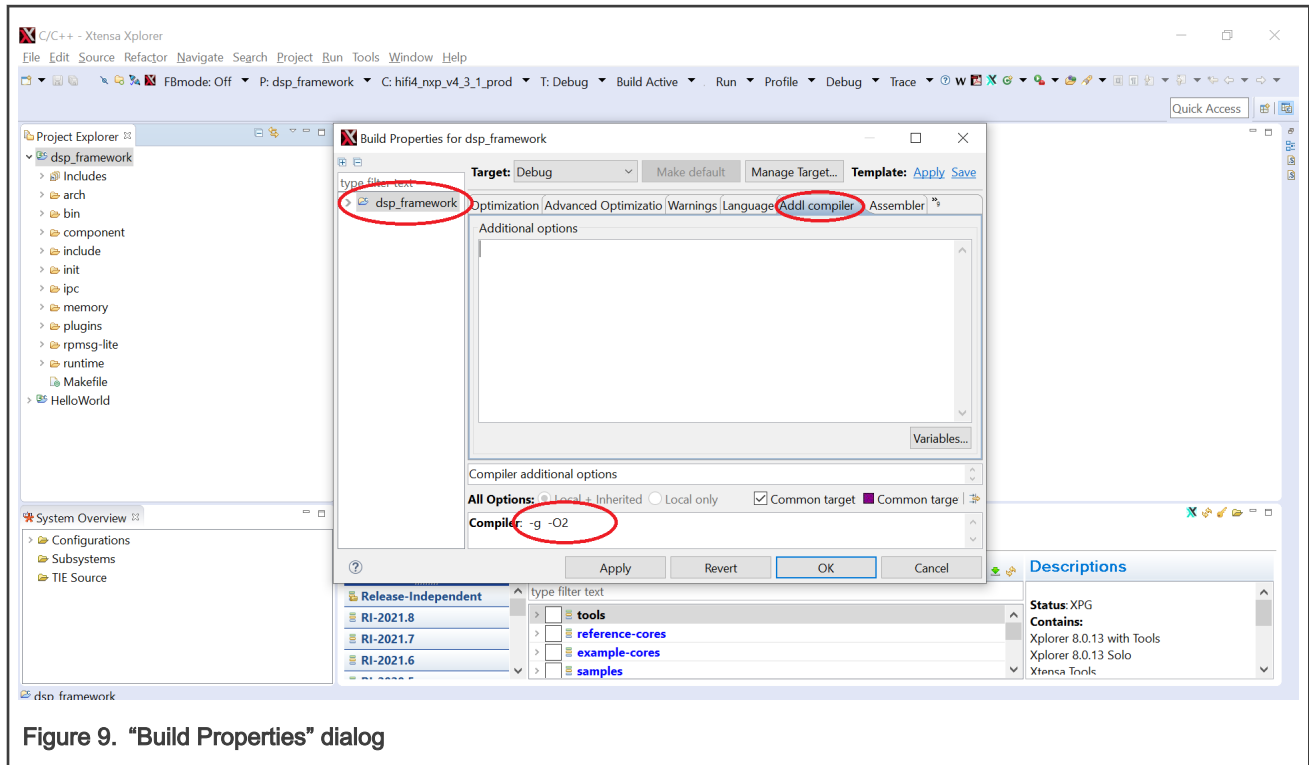

Figure 9. "Build Properties" dialog
- Right-click the name of the DSP framework project in the “Project Explorer” panel and choose the “Build Properties...” option. You will see the “Build Properties for dsp\_framework” dialog. The dialog is shown in Figure 9.